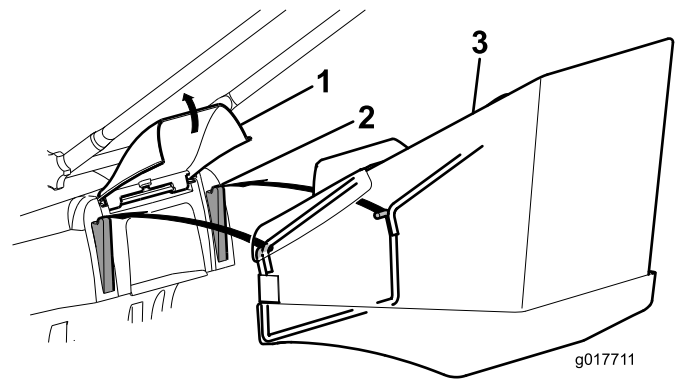

Figure 14
1. Lift the rear deflector, remove the mulch plug (Figure 15), and install the grass bag onto the lugs (Figure 14).